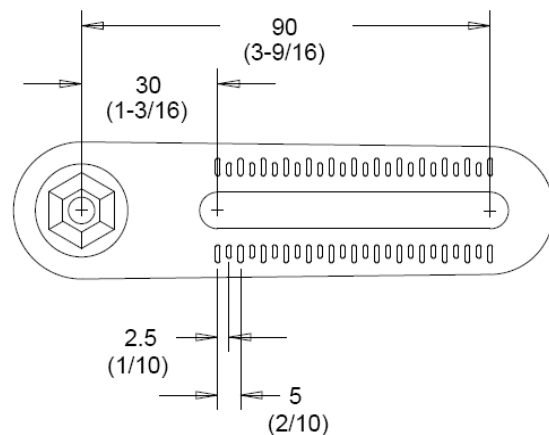

Figure 7: Crank arm dimensions
- c. Add the serrated lock washer and tighten the ball joint hex nut using the recommended torque of 2.3 to 2.8 N·m (20 to 25 lb·in.). See Figure 7 for the crank arm slot dimensions.